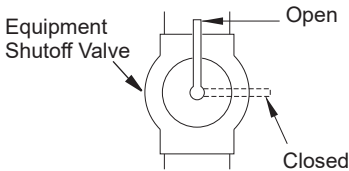

Figure 15 - Equipment Shutoff Valve
Use 3/8" black iron pipe or greater. Installation must include an equipment shutoff valve, union, and plugged 1/8" NPT tap. Locate NPT tap within reach for test gauge hook up. NPT tap must be upstream from heater (see Figure 15, page 15).
1. Close equipment shutoff valve (see Figure 15).
1. Open equipment shutoff valve (see Figure 15).